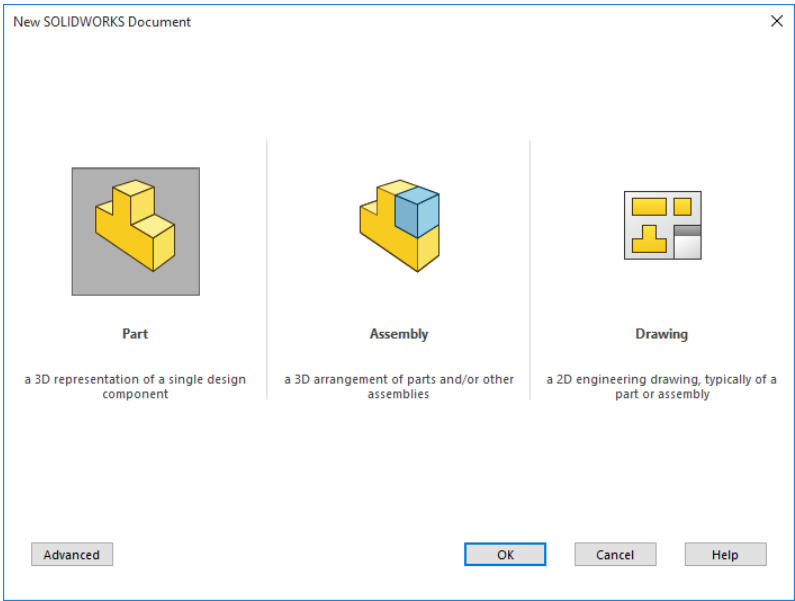

Figure 2-59 The **New SOLIDWORKS Document** dialog box
- 2. Choose the **Part** button available in the **New** area of the **Home** tab in the **Welcome - SOLIDWORKS 2019** dialog box. A new SOLIDWORKS part document is invoked. You can also select the **New** button from the Menu Bar; the **New SOLIDWORKS Document** dialog box is displayed, as shown in Figure 2-59.